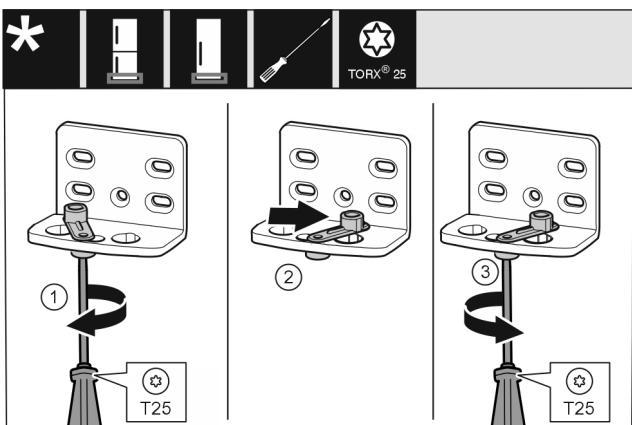

Fig. 13
- ▶ Use screwdriver to loosen the screw Fig. 13 (1).
- ▶ Lift the door closing aid Fig. 13 (2) and turn 90° clockwise in the hole.
- ▶ Tighten screw Fig. 13 (3) with screwdriver.